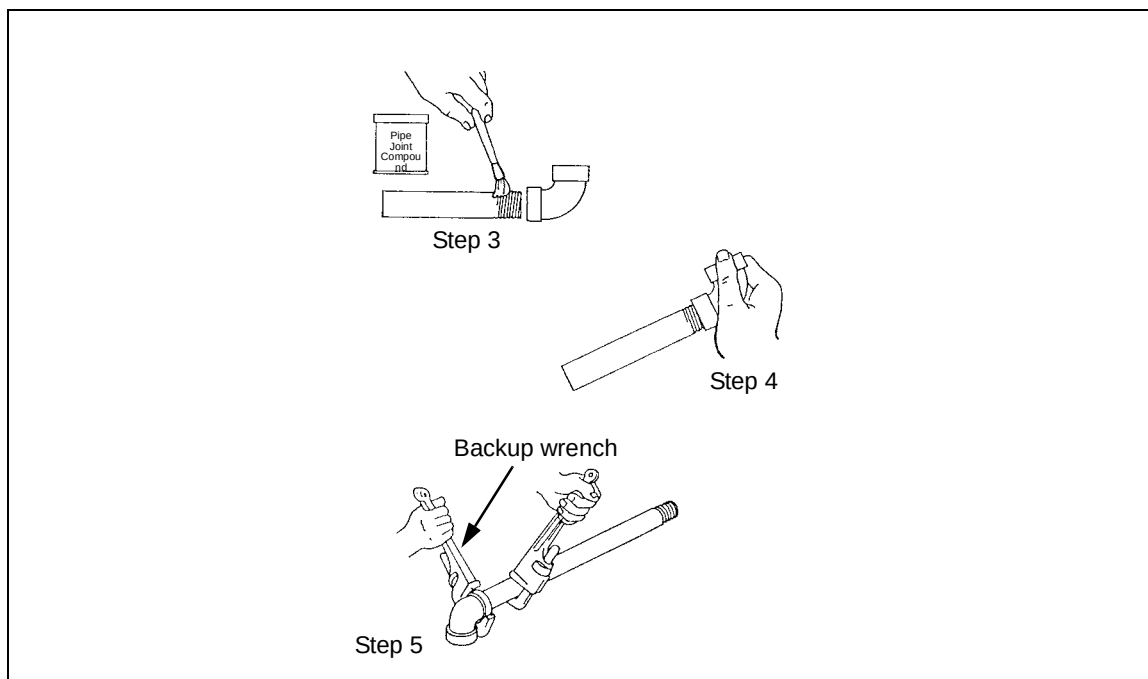

Figure 6-30. Joining Threaded Pipe
6-60. Fittings are normally screwed to the pipe after it is threaded, while the pipe is still in the vise. This ensures a good fit. The assembled pipe and fittings should then be screwed into the proper place in the installation. Use *Figure 6-30* and the following joining steps:
Step 3. Apply pipe-joint compound or Teflon tape to the *pipe* threads only (*Figure 6-30*).
Step 4. Screw the fitting on, hand tight (*Figure 6-30*).
Step 5. Tighten the fitting using two pipe wrenches, one on the fitting (backup wrench) and the other on the pipe (*Figure 6-30*), provided no vise is available. The backup wrench keeps the fitting from turning.